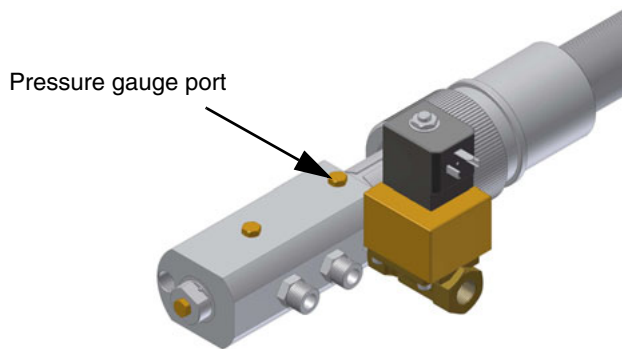

Fig. 18
- 7 The nozzle supply pressure is already factory-set and must not be changed. Only if necessary, adjust the supply pressure as follows (see related paragraph); insert a pressure gauge into the port showed on Fig. 18 and act on the pump adjusting screw **VR** (see Fig. 17 and page 15) as to get the nozzle pressure at 25bar (Fluidics/bergonzo nozzles - see diagram on page 22).